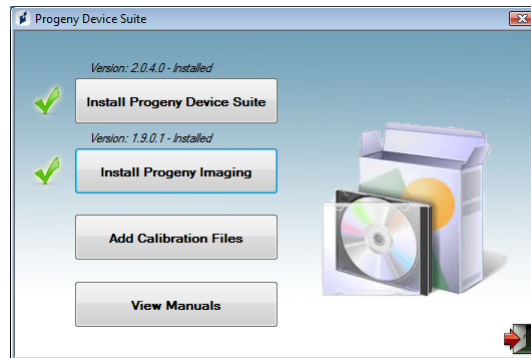

Figure 7: Progeny Device Suite and Progeny Imaging are installed
- Green check marks next to each of the 'Install Progeny Device Suite' and 'Install Progeny Device Suite' buttons will appear when both the Progeny Device Suite and Progeny Imaging are installed (Figure 7).